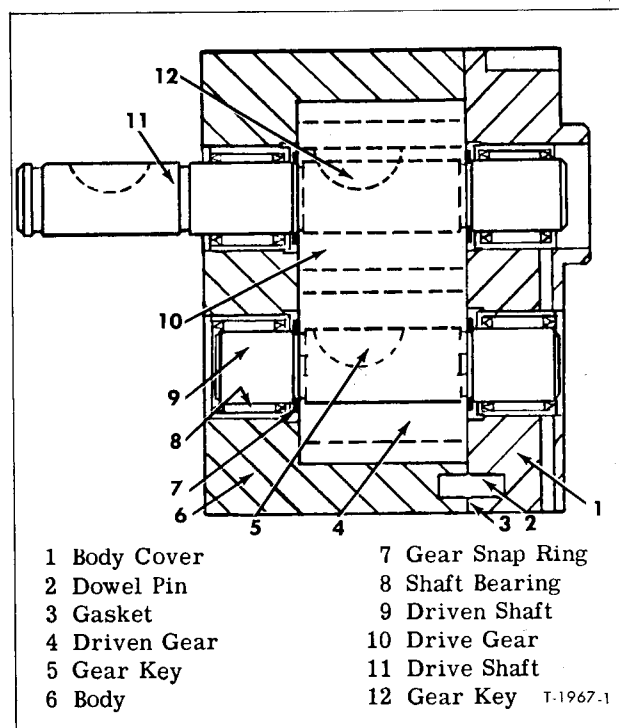

Figure 10—Sectional View of Oil Pump
1. Disconnect discharge tube (7) from pump (8).
2. Remove snap ring (5), then pull pump fiber driven gear (6) from pump drive shaft.
3. Remove four cap screws attaching pump assembly (8) to clutch housing.
4. Remove pump assembly (8) and discard gasket. Remove inner snap ring from drive shaft (11, fig. 10).
Key numbers in text refer to figure 10.